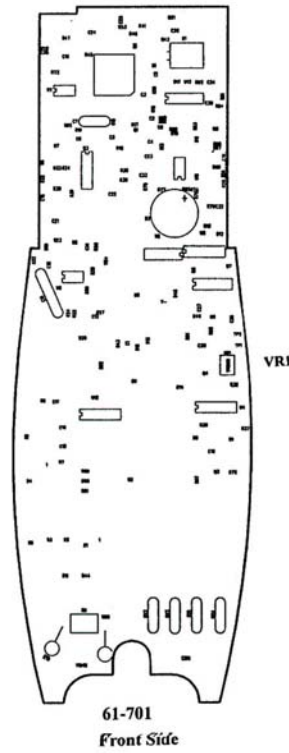

Figure 2A
**61-701 (Refer to Figure 2A)**